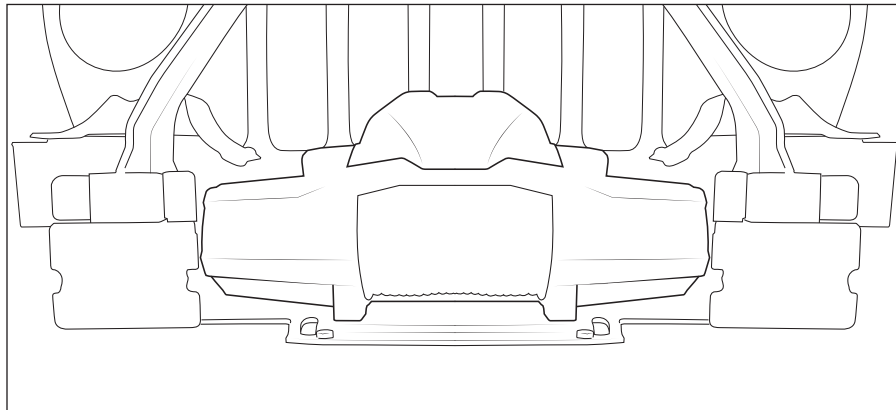

Figure 18
10. Place winch onto winch mount and bolt into place using the hardware provided by the winch manufacturer. It can be wired per the manufacturer's recommendations either now or after final bumper installation (fig. 18).